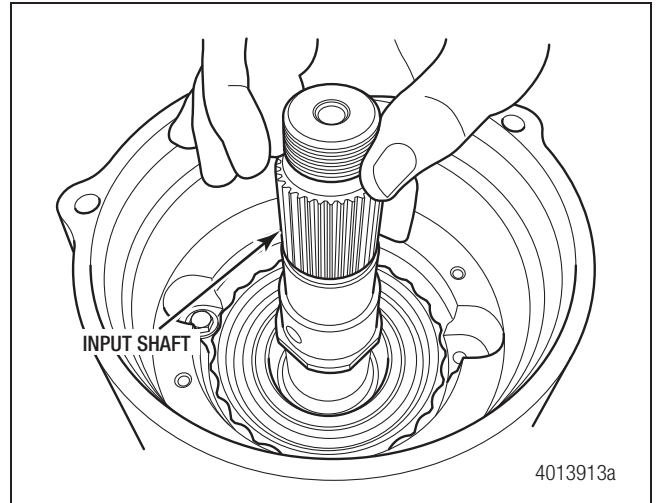

Figure 4.13
16. Remove the input shaft from the drive gear, shift components and planetary gear assembly. This will require you to rotate the shaft back and forth to dislodge the shaft splines from the internal splines of the drive gear, shift collars and the planetary gear. You may also remove components as necessary to free the shaft. Figure 4.13.